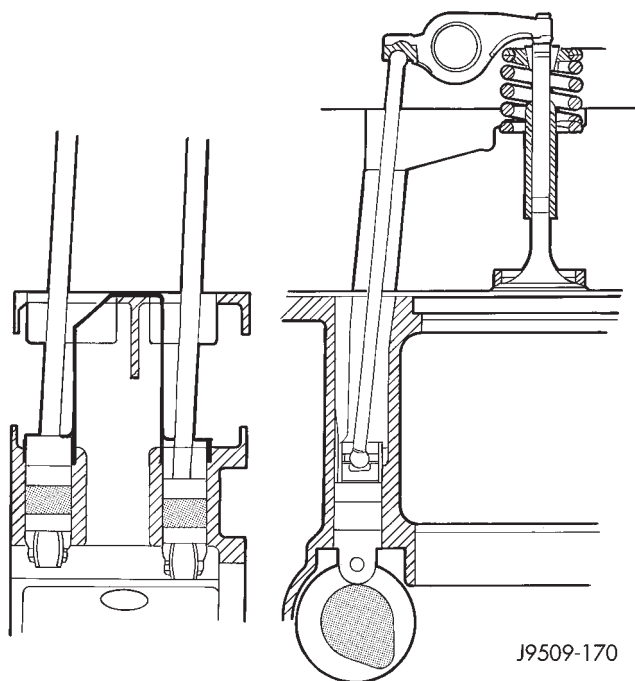

Fig. 14 Tappet And Rocker Arm Assembly
- (1) Remove the air cleaner.
- (2) Remove cylinder head cover (refer to cylinder valve cover removal in this section).
- (3) Remove rocker assembly and push rods (Fig. 14). Identify push rods to ensure installation in original location.
- (4) Remove cylinder head, intake manifold, and exhaust manifold, refer to cylinder head removal in this section.